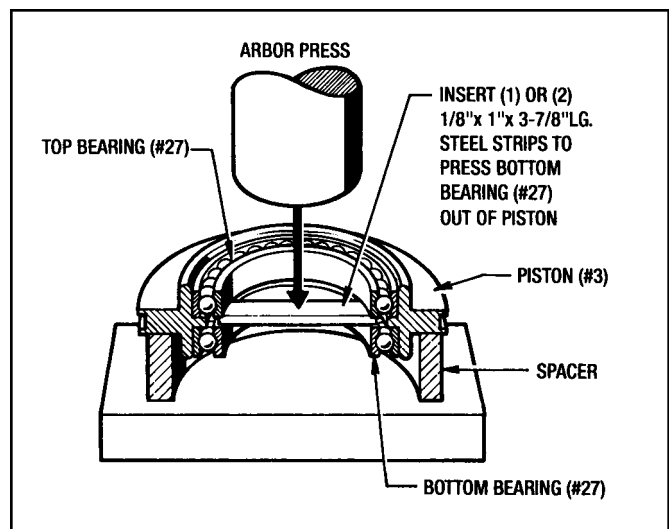

Figure 7.5 - Pressing Out Bearing (#27)
9. If the (2) Bearings (#27) are still intact in the Piston (#3), insert (1) or (2) steel strips 1/8" x 1" x 3-7/8" between the bearings and use an Arbor Press to press out one of the Bearings. (See Figure 7.5)